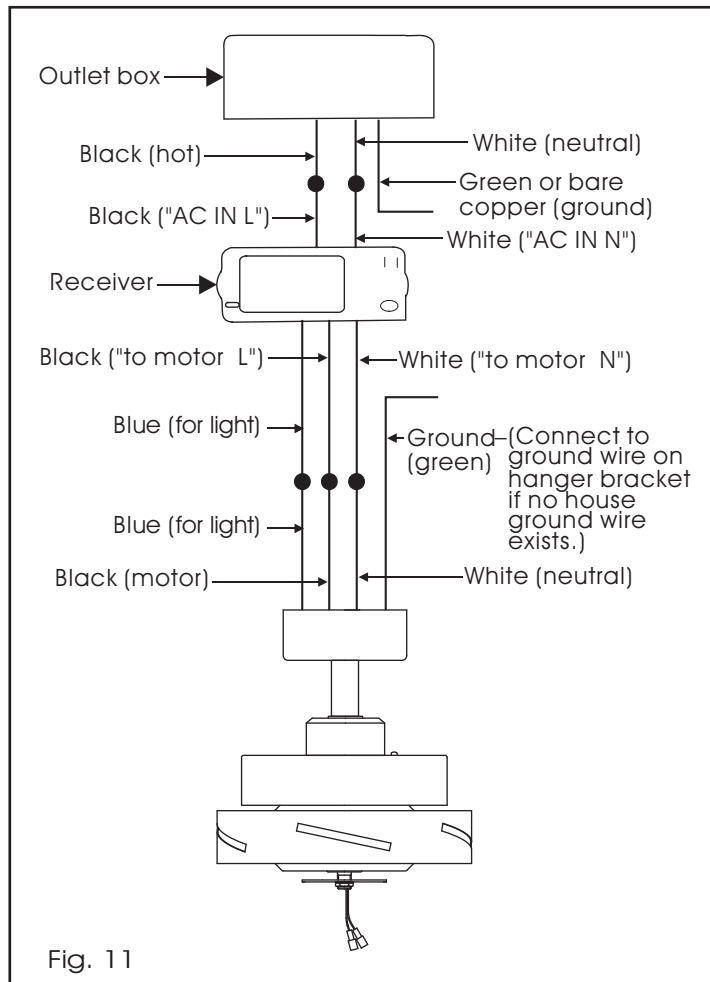

Fig. 11
Step 2. (Figure 11) Motor to Receiver Electrical Connections: Connect the black wire from the fan to black wire marked "TO MOTOR L". Connect the white wire from the fan to the white wire marked "TO MOTOR N" from the receiver. Connect the Blue wire from the fan to the Blue wire marked "For Light" from the receiver. Secure wire connections with the plastic wire nuts provided.
Step 3. (Figure 11) Receiver to House Supply Wires Electrical Connections: Connect the black (hot) wire from the ceiling to the black wire marked "AC in L" from the receiver. Connect the white (neutral) wire from the ceiling to the white wire marked "AC in N" from the Receiver. Secure the wire connections with the plastic wire nuts provided.
Step 4. (Figure 11) If your outlet box has a ground wire (green or bare copper) connect it to the fan ground wires; otherwise connect the hanging bracket ground wire to the mounting bracket. Secure the wire connection with a plastic nut provided. After connecting the wires, spread them apart so that the green and white wires are on one side of the outlet box and black and blue wires are on the other side. Carefully tuck the wire connections up into the outlet box.